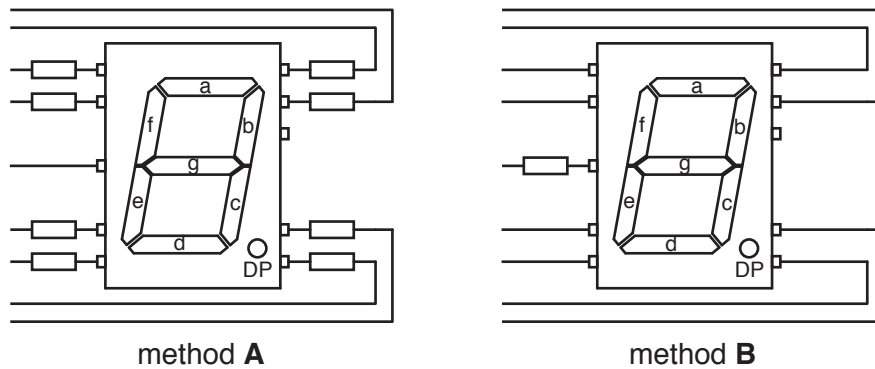

Fig. 13
- (vi) Fig. 13 shows two methods of protecting the LEDs in the display segments.